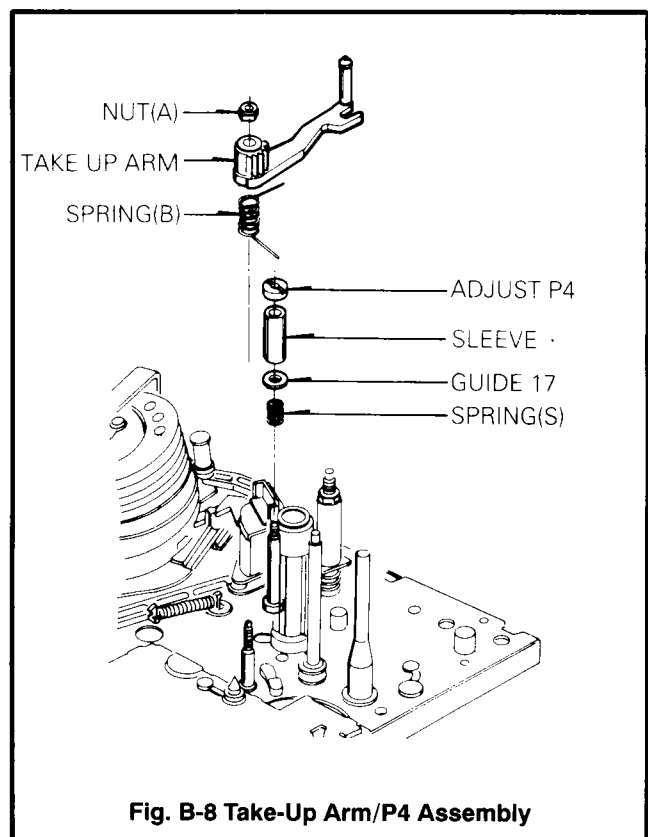

Fig. B-8 Take-Up Arm/P4 Assembly
- ① When disassembling the Take-Up Lever, be careful not to break the Hook(A).
- ② When reassemble the Take-Up Lever, align the appendant Gear of Lever Take-Up with the appendant Gear of Take-up Arm
- ③ Reassemble the Take-Up Lever completely by hooking (A).
8. Take Up Arm Assembly(Fig. B-8)
9. P4 Assembly(Fig. B-8)